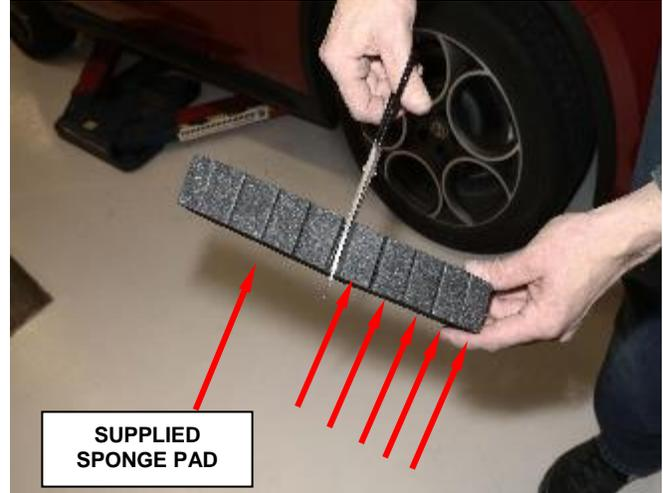

Figure 17 – Cut Sponge Pad
3. Cut one of the supplied sponge pads in half, leaving five sections as shown (Figure 17).